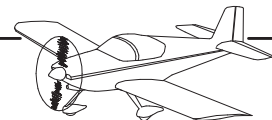

**FIGURE 1: CYLINDER #3
Step 1: Install the EX-00023 into the right side aft exhaust port as shown in Figure 1. Start the exhaust stud nuts onto the studs but do not tighten further than the point at which the exhaust stud begins to extend beyond the end of the nut.